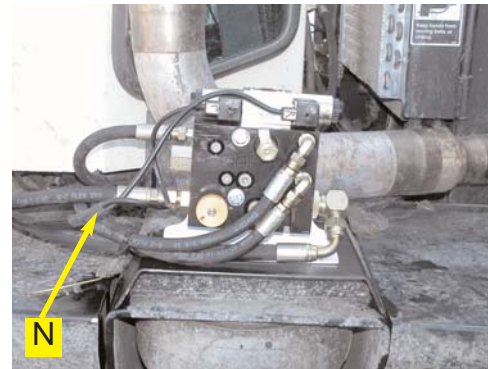

Figure 7a. Installed valve control cable at Automated Steering Block.
- a. Install the Automated Steering valve control cable (N) at the Automated Steering Block by attaching the DIN connectors to the coil. (Figure 7a.)